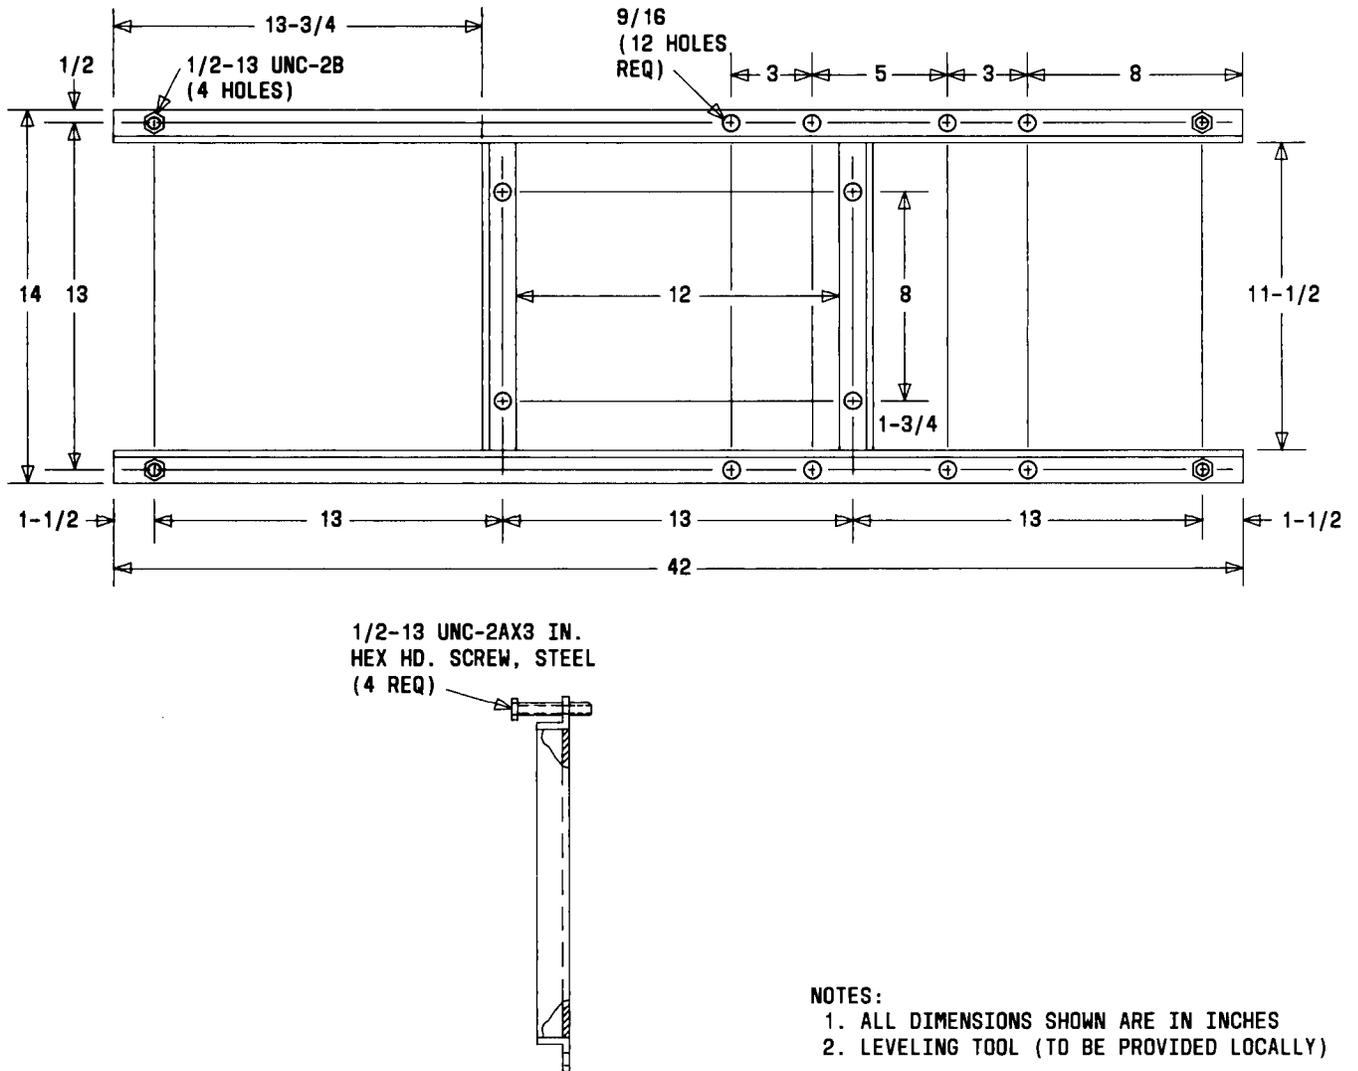

Fig. 19—Leveling Tool (Notes 1 and 2)
- (b) A leveling tool (supplied locally [Fig. 19]) can be used to position the List 152 buried base during installation. Attach the base to the tool and position as shown in Fig. 20, View A, B, or C depending on soil condition.